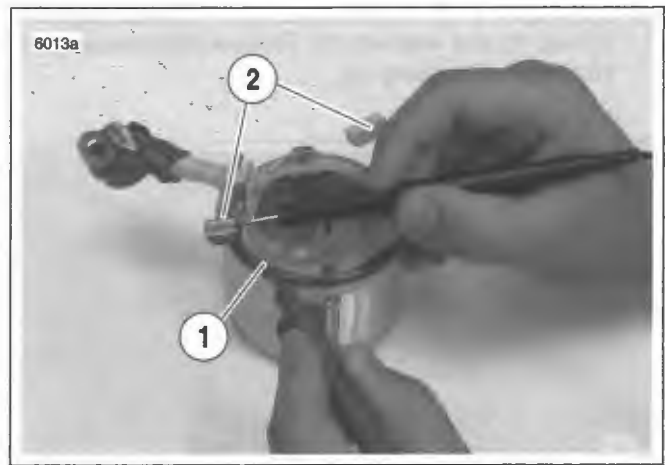
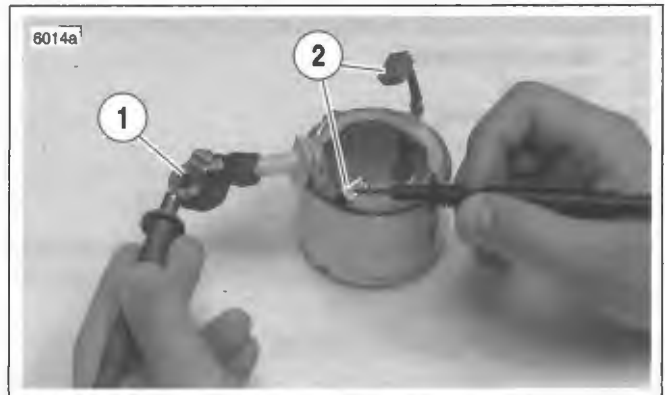
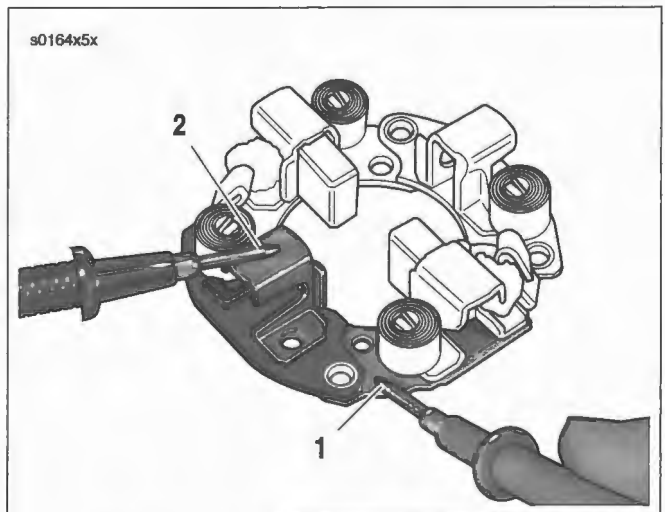

Figure 5-13. Grounded Field Test
Figure 5-14. Open Field Test
Figure 5-15. Brush Holder Insulation Test
13. See Figure 5-13. Check for GROUNDED FIELD COIL with an ohmmeter or continuity tester.
- a. Touch one probe to the frame (1).
- b. Touch the other probe to each of the brushes (2) attached to the field coil.
14. See Figure 5-14. Check for OPEN FIELD COILS with an ohmmeter or continuity tester.
- a. Touch one probe to the field wire (1).
- b. Touch the other probe to each of the brushes attached to the field coil(s) (2).
15. See Figure 5-15. Test BRUSH HOLDER INSULATION with an ohmmeter or continuity tester.
- a. Touch one probe to holder plate (1).
- b. Touch the other probe to each of the positive (insulated) brush holders (2).